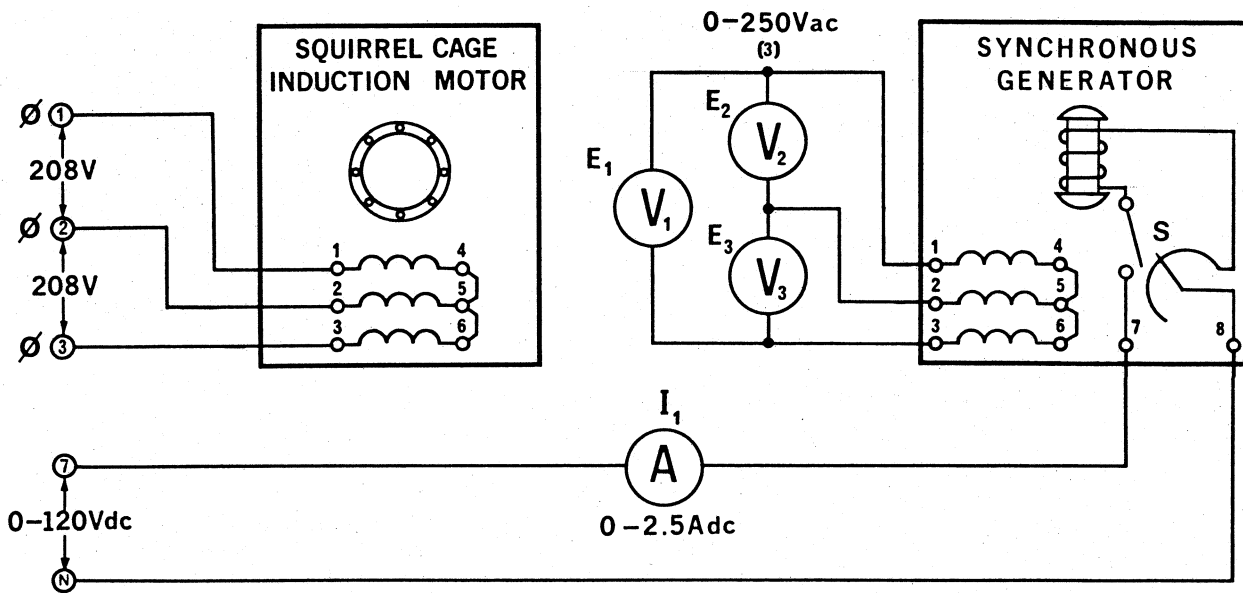

Figure 10-1.
- 1. Using your Three-Phase Synchronous Motor/Generator, Four-Pole Squirrel-Cage Induction Motor, Power Supply, AC Voltmeter and DC Voltmeter/Ammeter, connect the circuit shown in Figure 10-1. The squirrel-cage motor will be used to drive the synchronous motor/generator as an alternator. Its speed will be assumed constant during this Experiment. Note that the squirrel-cage motor is connected to the fixed 208 V 3 ϕ output of the power supply, terminals 1, 2 and 3. The rotor of the alternator is connected to the variable 0-120 V output of the power supply, terminals 7 and N.